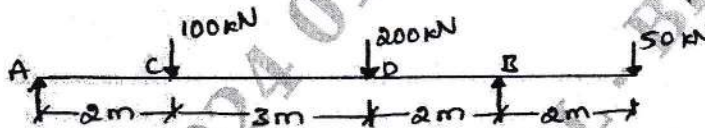

Fig.Q9(b)
- b. Determine the slopes at A and B, deflections at C, D and F in the beam shown in Fig.Q9(b) in terms of EI.